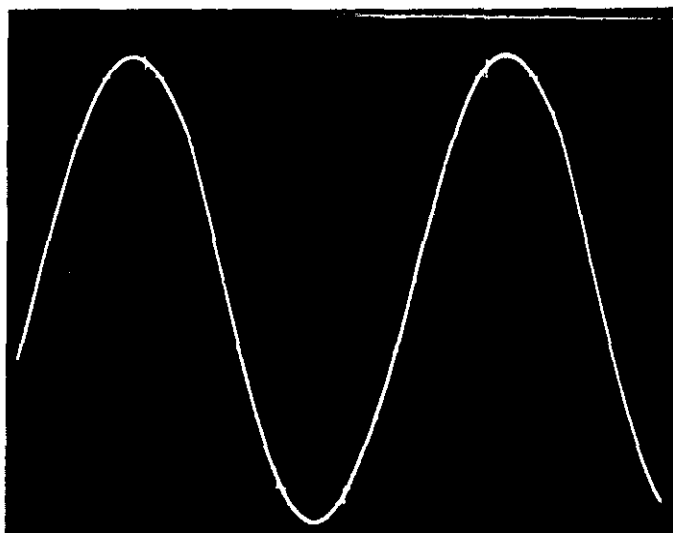

FIGURE 15. Wave Form for Tuned Multivibrator Output Across Resistor R121 (Figure 22). Vertical setting is 1 volt/cm; horizontal, 2 milliseconds/cm.
c. Set the RANGE Switch to 30 MILLIVOLTS. Adjust the MULTIVIBRATOR FREQUENCY ADJ Potentiometer, R210 (Figure 27), to obtain the largest signal across resistor R121, approximately 6.5 to 7.5 volts peak-to-peak (650 to 750 millivolts with divider Probe). Figure 14 shows typical wave form at the multivibrator output. Figure 15 shows typical waveform across R121 (junction of R121 and C117). If tuning potentiometer R210 does not cause the signal to swing through maximum, change the value of resistor R208 (Figure 27) to center the potentiometer adjustment.